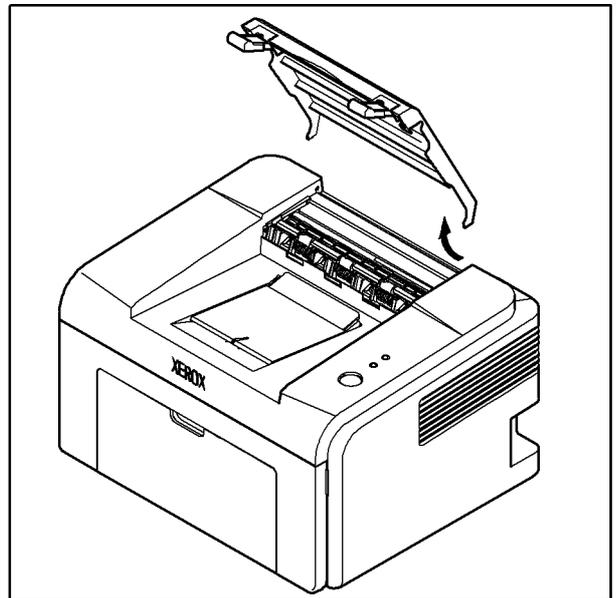

Figure 2
2. Gently flex the exit cover in the direction of the arrow, then remove the exit cover, Figure 2.